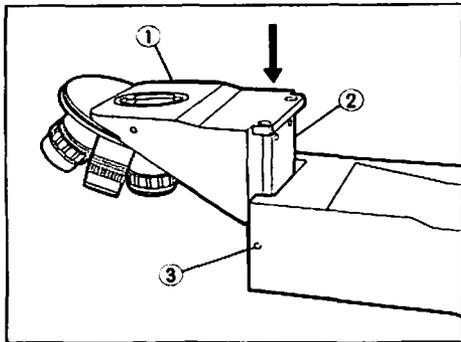

Fig. 7
5 Mounting the Motorized Revolving Nosepiece (Figs. 7, 8)
1. Gently insert the motorized revolving nosepiece ① along the slide dovetail ② as shown in Fig. 7.
2. To clamp the dovetail slide, use the 3 mm Allen® wrench provided, to lightly tighten the hex screw ③ on the side of the arm as shown in Fig. 7, pressing the nosepiece against one side of the slide dovetail.
3. Clamp the revolving nosepiece by tightening the four hex screws ④ shown in Figs. 7, 8 (short screws for the top and long screws for the front) using the Allen® wrench.